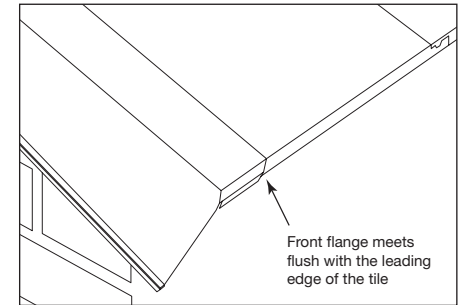

Fig. 7 – Push first verge unit up so it sits flush with leading edge of tile
- 6 Push the verge unit up so the front flange meets flush with the leading edge of the tile (Fig. 7). Nail the verge unit to the tiling with a 40 x 3.35mm annular ring shank nail. Using the Marley batten end clip select the appropriate hole (nearest to the centre of the tiling batten).